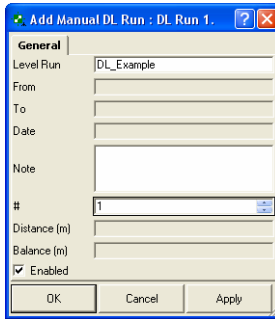

Figure 5-92. Add Manual DL Run dialog box
- In the *General* tab of the *Add Manual DL Run* dialog box (Figure 5-92) type in the name of the leveling job and set the number of the leveling.